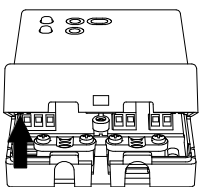

Fig. 3
- 3 Rotate the cable lid and remove it completely (Fig. 3).
- 7 Place the cable lid on the base and rotate it towards the base; push the cable lid until the locking plastic flap springs into the hole on the lower side of the cable lid (Fig. 3).